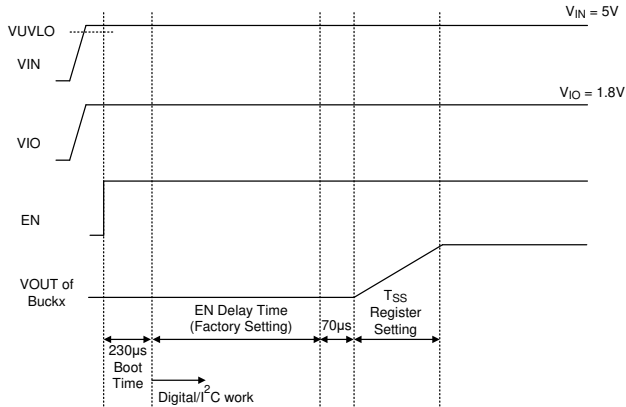
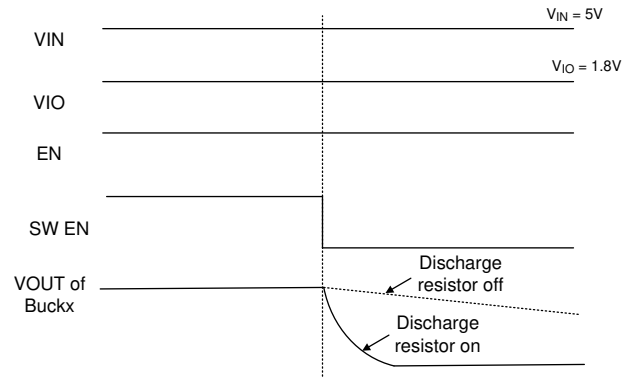
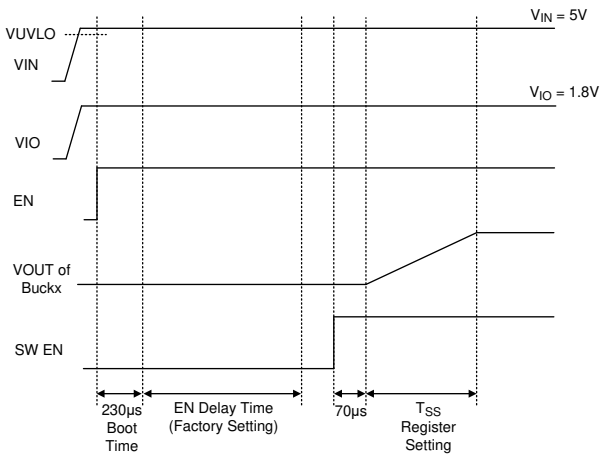
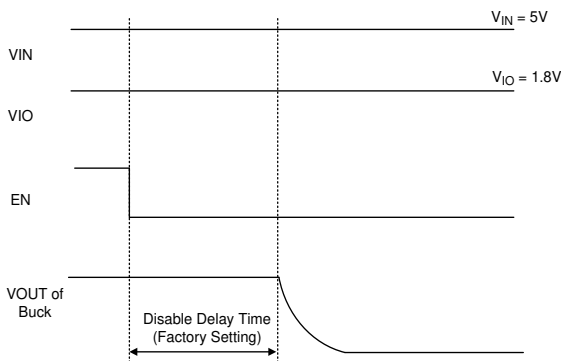

Figure 3. Start-up Sequence
Figure 6. Power-off Sequence by Software
Figure 4. Start-up Sequence by Software
Figure 5. Power-off Sequence
enable control, to enable or disable the device. If VEN is held below a logic-low threshold voltage ( $V_{ENL}$ ) of the enable input (EN), the converter will enter into shutdown mode and reset all digital function ( $I^2C$ ); that is, the converter is disabled even if the VIN voltage is above VIN under-voltage lockout threshold ( $V_{UVLO}$ ). During shutdown mode, the supply current can be reduced to  $I_{SHDN}$  (20 $\mu$ A or below). If the EN voltage rises above the logic-high threshold voltage ( $V_{ENH}$ ), the device starts switching. When appropriate voltages are present on the VIN, AVIN, VIO and EN pins, the RTQ2134 will begin digital function, switching and initiate a soft-start ramp of the output voltage. After the device is turned on and VIO is ready, all digital functions including  $I^2C$  communication start to work in a boot time with 230 $\mu$ s (typ.). The voltage of VIO can be used to supply power to digital function and it is recommended that enable the device after VIO voltage is ready. The RTQ2134 supports enable delay time setting (factory setting) and soft-start slew rate setting for each Buck. The soft-start function is used to prevent large inrush current while the converter is powered up. Register 0x55[5:4], 0x6F[5:4] and 0x89[5:4] let soft-start time of each be programmable. The start-up sequence is shown in Figure 3. IC also implements enable control by software, it can be set in the registers: 0x49[0], 0x4B[0], 0x63[0], 0x65[0], 0x7D[0] and 0x7F[0]. If the output voltage of Buck is default disable which is only set by factory, the output voltage starts to ramp up by software and the Figure 4 shows the start-up sequence. For disable function, the device supports disable delay time setting (factory setting) by external EN pin and the output voltage ramps down with default discharge resistor. The discharge resistor can be controlled to on or off by register 0x42[0], 0x5F[0] and 0x79[0] when the converter is disabled by software. The power-off sequence is shown in Figure 5 and Figure 6.